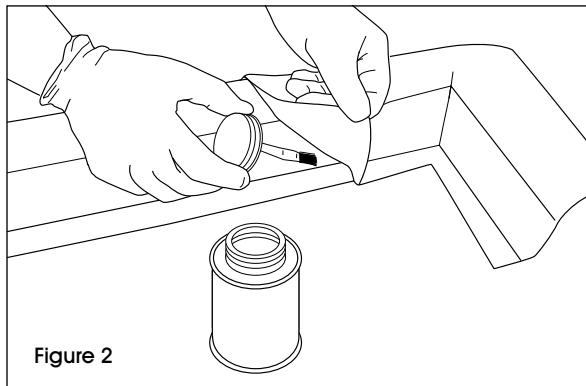

Figure 2
- a. Attach corners: Apply vinyl adhesive to built-in vinyl cover on corner section and end of straight section. Attach the two pieces and apply pressure (approximately 30 seconds). (See Figure 2)